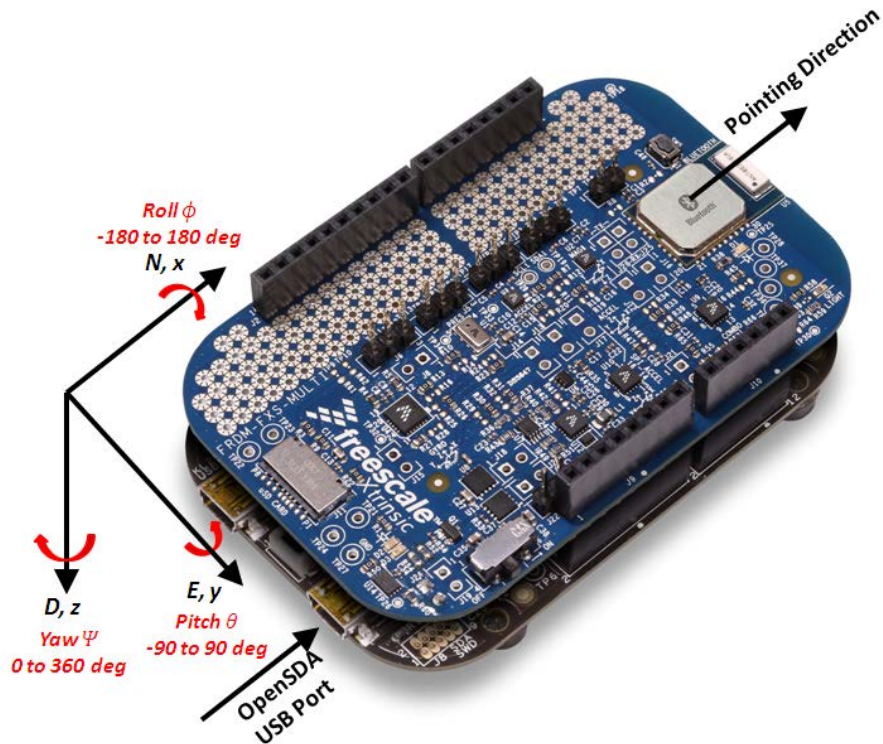
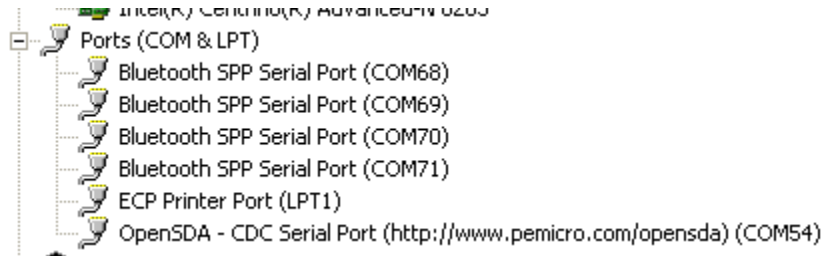

Figure 3. Assembled Kit and NED Coordinate System
Figure 4. Example List of Ports in Device Manager
2. Insert the FRDM-FXS-MULTI(-B) to the FRDM-KL25Z. When the board assembly is complete, the pointing direction is indicated by the black Pointing Direction arrow in Figure 3.
4. If a hard-wired connection is desired, plug one end of the USB cable to the assembled boards (see Figure 3) and the other end to a spare USB port. Ensure OpenSDA Serial Port is recognized by the OS of your PC. See Figure 4.
The specific COM port to be used may be determined via the Device Manager feature of Windows. Please refer to Figure 4.